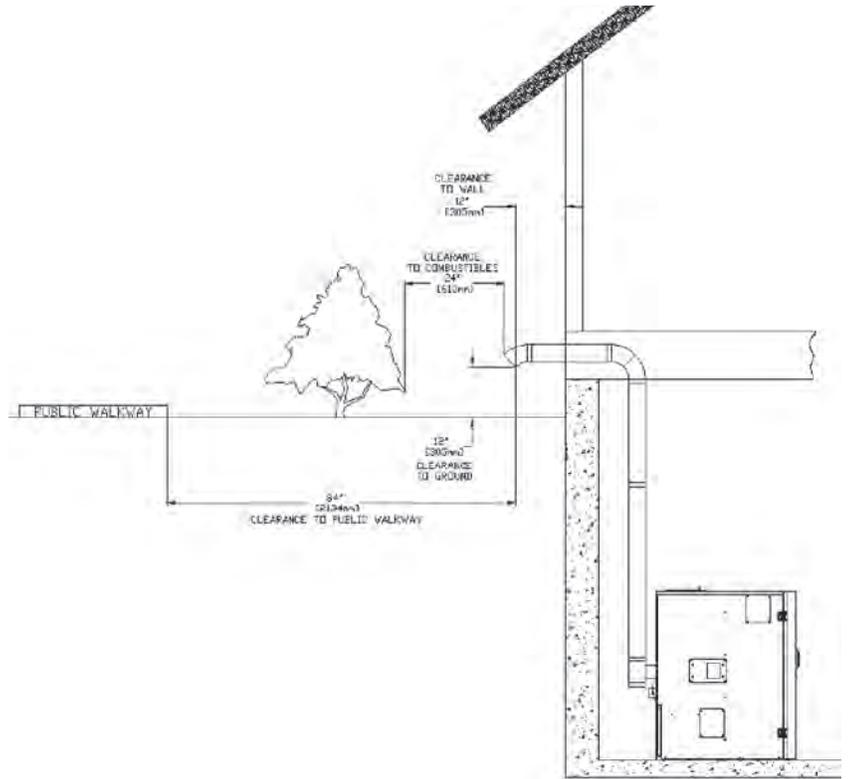

Figure 4
3. Vent surfaces can get hot enough to cause burns if touched by children. Non-combustible shielding or guards may be required (Figure 4).